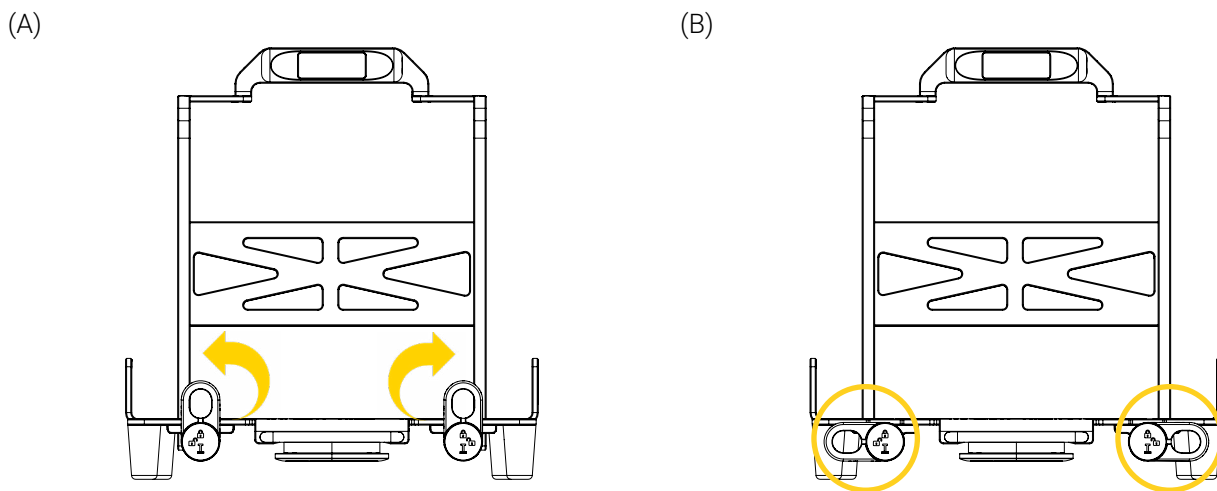

Figure 6: Unlocking the BP310 – FL
1. Unlock the mounting bracket using the rotary locks (Figure 6). Refer to the « Safety Mechanism » section on page 17 if needed.